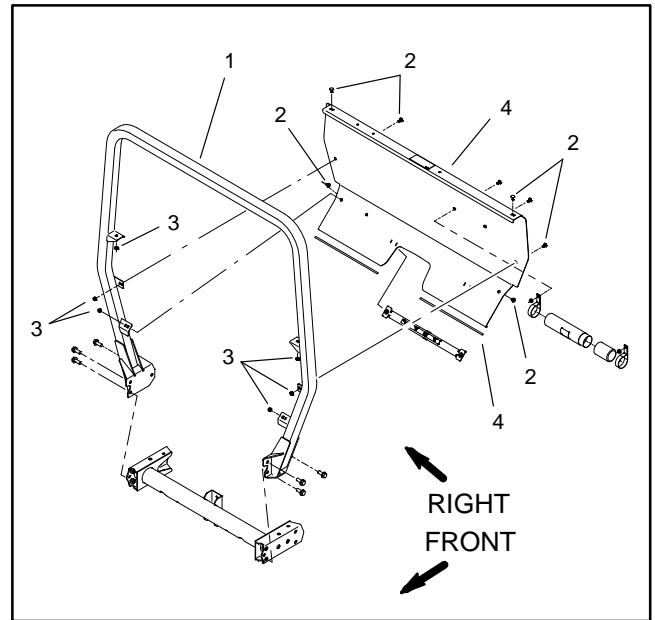

Figure 31
2. Remove six (6) carriage screws and flange nuts that secure ROPS cover to ROPS frame. Remove cover from vehicle (Fig. 31).
4. Remove four (4) socket head screws that secure each seat to vehicle. Lift both seats from vehicle.
5. Install ROPS cover to vehicle (Fig. 31).